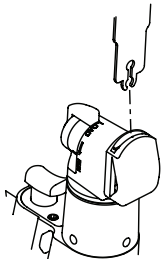

Figure 1 – To Install Blade Rotate the Lever
3. Hold the handpiece in a vertical orientation with the sagittal head and blade entry slot facing up. (See figure 1).